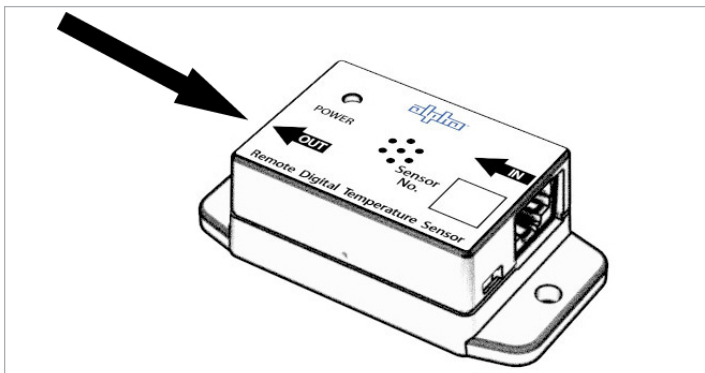

Fig. 1, Insert Cat 5e Patch Cable
2. Use Cat5e Host Cable to connect from V30/30 to the temperature sensor jack labeled "OUT". See Fig. 1.